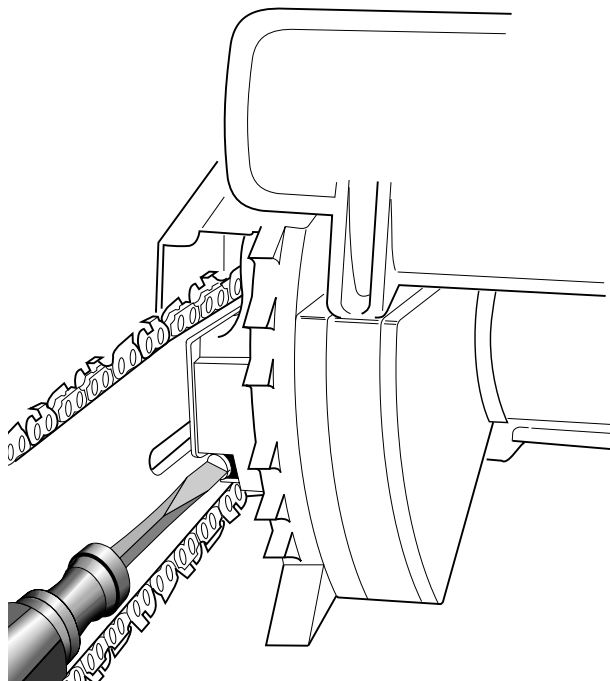

Figure 5 - Turning Adjusting Screw
2. Turn adjusting screw clockwise until all slack is out of chain (see Figure 5).